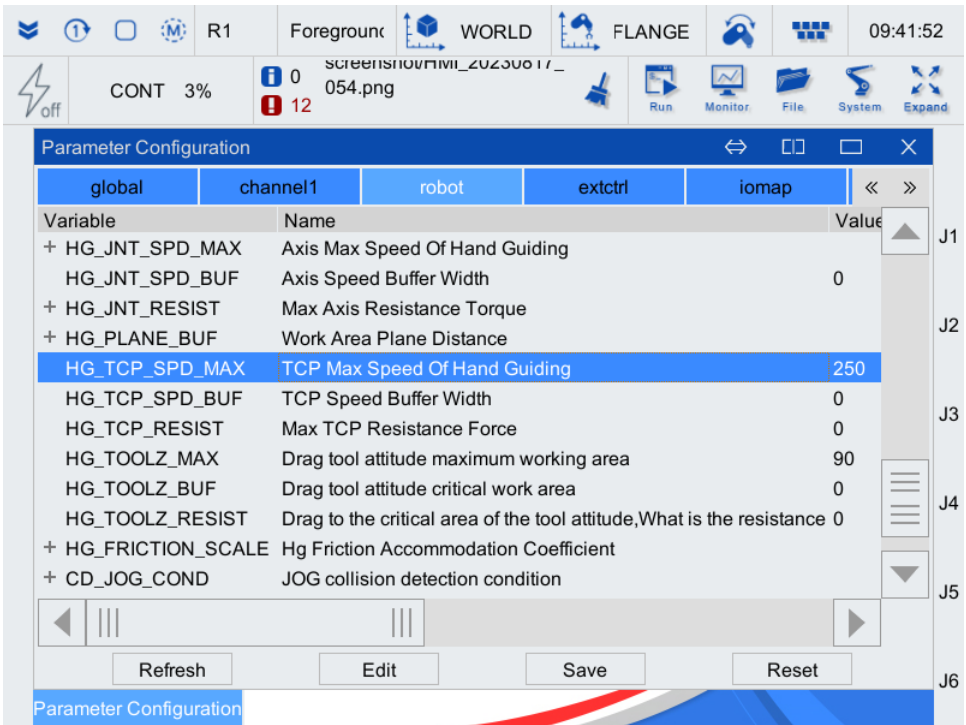

Figure 5-41 Parameter configuration interface
Step3. Enter the parameter configuration interface, select the [robot] tab, as shown in Figure 5-41, click to select the [HG_TCP_SPD_MAX] parameter in the row, and click<Edit>.